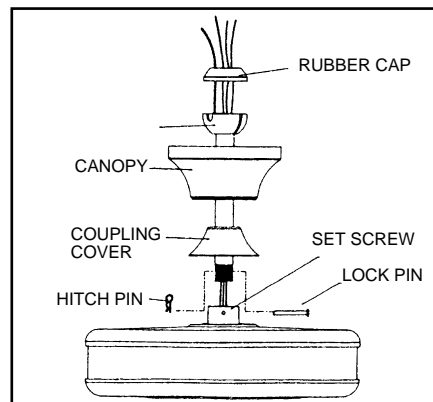

Fig.8
Step 4. Carefully feed fan wires up through the downrod and then through the holes in the rubber cap on the top of the downrod. Insert the rod into the coupling and tighten onto fan until the holes are aligned. Next, replace lock pin and hitch pin. Tighten the set screws. (Fig. 8)
Step 5. Slip coupling cover, and canopy onto downrod. Let canopy rest on top of the coupling cover. Carefully reinstall hanger ball onto rod being sure that cross pin is in correct position, set screw on hanger ball is tight and wires are not twisted. (Fig. 8)